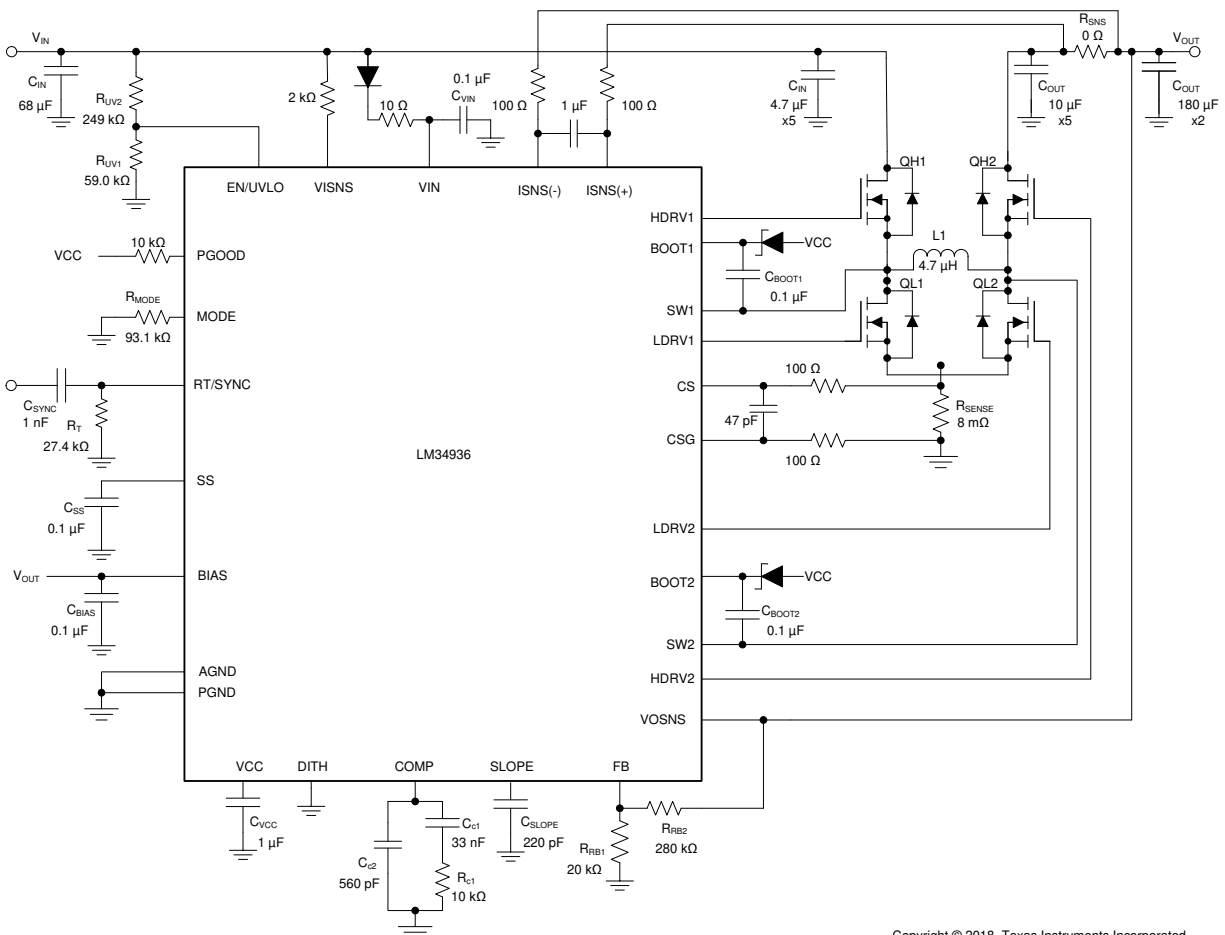

图 8-1. LM34936-Q1 Four-Switch Buck Boost Application Schematic
A filter network as shown in 图 8-1 is often used across the ISNS(+) and ISNS(-) pins to filter the ripple in the average current sense signal.
For applications where the input voltage is higher than 28 V, a 2-k Ω resistor in series with the VISNS pin is required as shown in 图 8-1.
The LM34936-Q1 has a gm error amplifier for loop compensation. The gm amplifier output (COMP) range is 0.3 V to 3 V. Connect an R_{C1} - C_{C1} compensation network between COMP and ground for type II (PI) compensation (see 图 8-1). Another pole is usually added using C_{C2} to suppress higher frequency noise and switching frequency ripple.
The low-side gate drivers are powered from VCC and the high-side gate drivers HDRV1 and HDRV2 are powered from bootstrap capacitors C_{BOOT1} (between BOOT1 and SW1) and C_{BOOT2} (between BOOT2 and SW2), respectively. The C_{BOOT1} and C_{BOOT2} capacitors are charged through external Schottky diodes connected to the VCC pin as shown in 图 8-1.
Typically, a combination of ceramic and bulk capacitors is needed to provide low ESR and high ripple current capacity. The complete schematic in 图 8-1 shows a good starting point for C_{OUT} for typical applications.
The maximum RMS current occurs at $D = 0.5$, which gives $I_{\text{CIN(RMS)}} = I_{\text{OUT}} / 2 = 3 \text{ A}$. A combination of ceramic and bulk capacitors should be used to provide short path for high di/dt current and to reduce the output voltage ripple. The complete schematic in 图 8-1 is a good starting point for C_{IN} for typical applications.
For some application circuits, it can be required to add a filter network to attenuate noise in the CS and CSG sense lines. See 图 8-1 for typical values. The filter resistance must not exceed $100 \text{ }\Omega$.